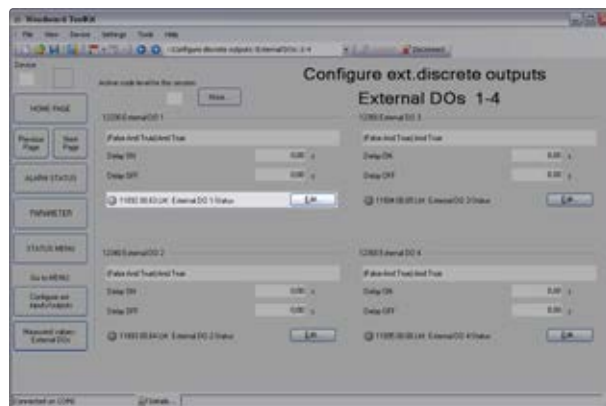

Fig. 195: Setup of external DOs
1. ➔ Set up the external discrete outputs using the Toolkit screen shown in (Fig. 195).